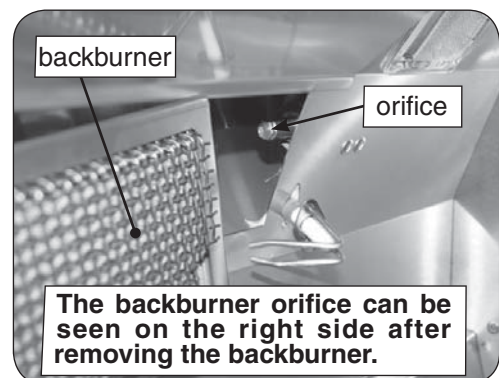

Fig. 29-4 Remove backburner
3. Carefully pull the left end of the backburner forward until the burner can be moved to the left pulling it free from the orifice located on the right side (see Fig. 29-4).